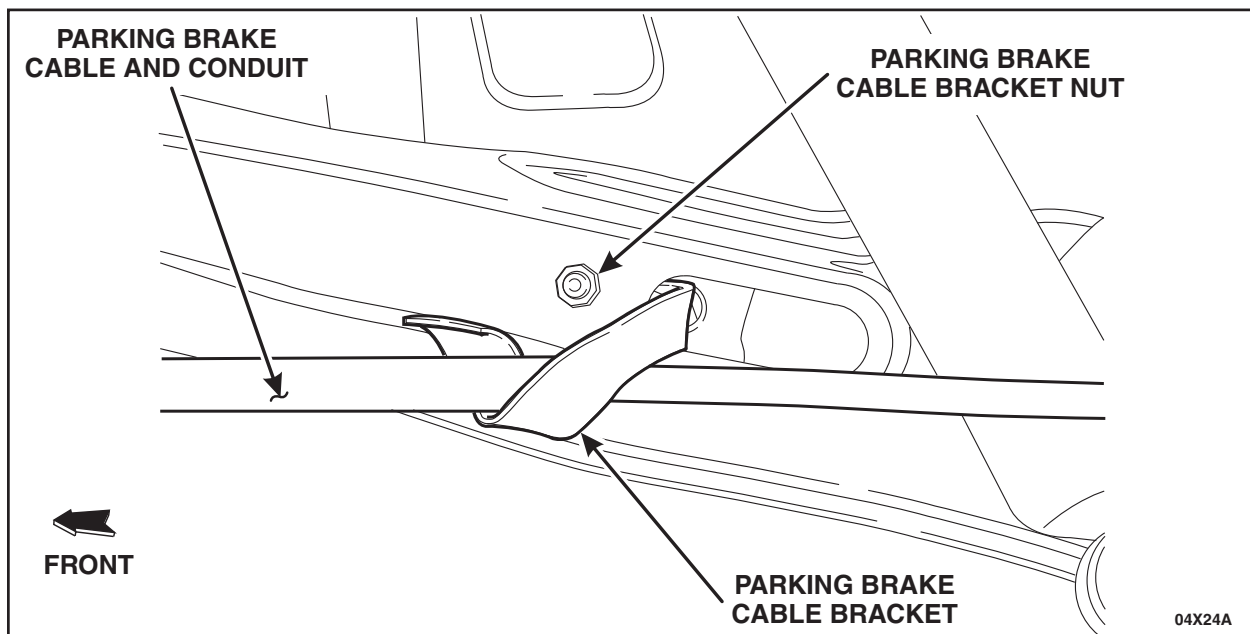

FIGURE 8
2. Remove the parking brake cable bracket nuts and position the parking brake cable brackets aside. See Figure 8.
21. Position the parking brake cable brackets in place and install the parking brake cable bracket nuts. See Figure 8.